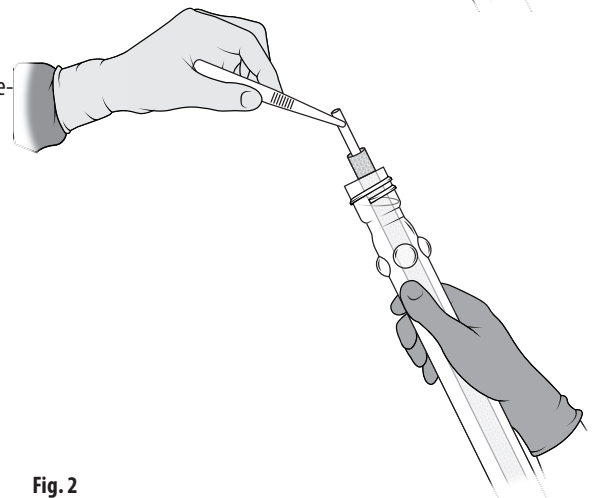

Fig. 2
4. The mandrel will float above the opening of the tube. Aseptically remove the prosthesis from the tube by grasping the end of the mandrel and lifting it gently out of the tube. Fig. 2. Do not allow the prosthesis to touch the outer top edge of the tube. The "T" on the bottom of the mandrel will prevent the graft from slipping off the mandrel.